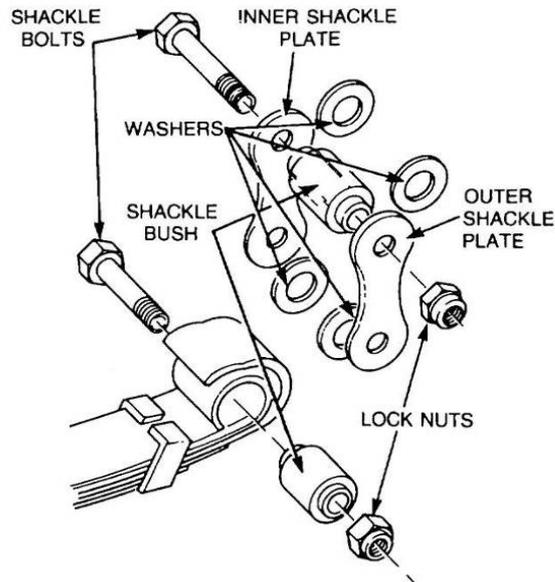

Figure 151 Removal of the Shackle Bolts (Rocker Beam End)
- g. Using a suitable drift, drive the shackle bolts from the spring eye and the rocker beam. Remove the shackle bolts, the two flat washers and the inner shackle plate (Figure 151).